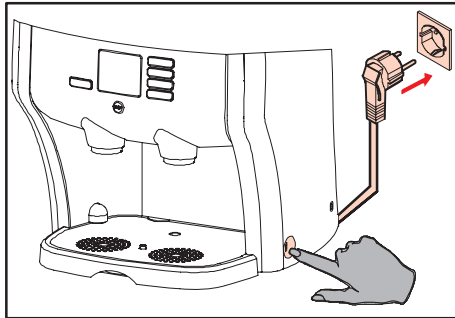

Fig. 4 Plug + switch
2. Press the power switch (fig. 4).
1. Press the power switch (fig. 4).